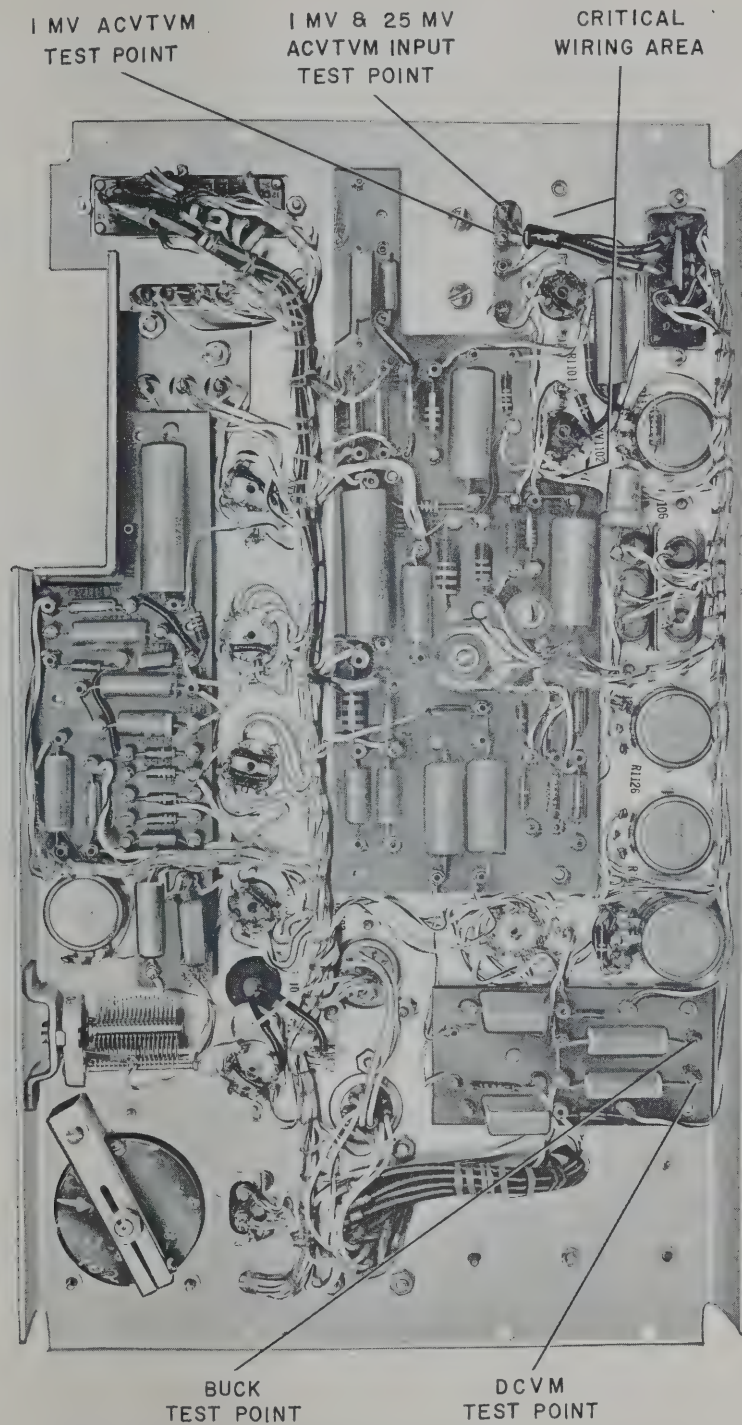

Figure 5-6. Oscillator Amplifier Panel, Bottom View
b. An AC output of 85 volts expected value is found to be high. The input voltages are examined and one AC input is found to be abnormally high, i.e., is greater than the voltage marked on the schematic for the particular lead going to the connector - switch position being used on the test in question. This input voltage comes from a resistance divider in the adapter. Examination of other points on the divider may reveal the nature of the trouble. A point on the divider bearing a ratio such as $\frac{25 \text{ mv}}{17V}$ is usually the control point of the divider and should give 25 mv (or other specified value) when the oscillator is adjusted to exactly 17 volts on the high side of the divider. (Refer to figure 5-6 for the AC VTVM probe points.) This, of course, is usually done in some previous step before the one where an input voltage is fed to a package. Again continue examination of voltages, adapter resistances, and lead or connector continuity until the trouble is located.